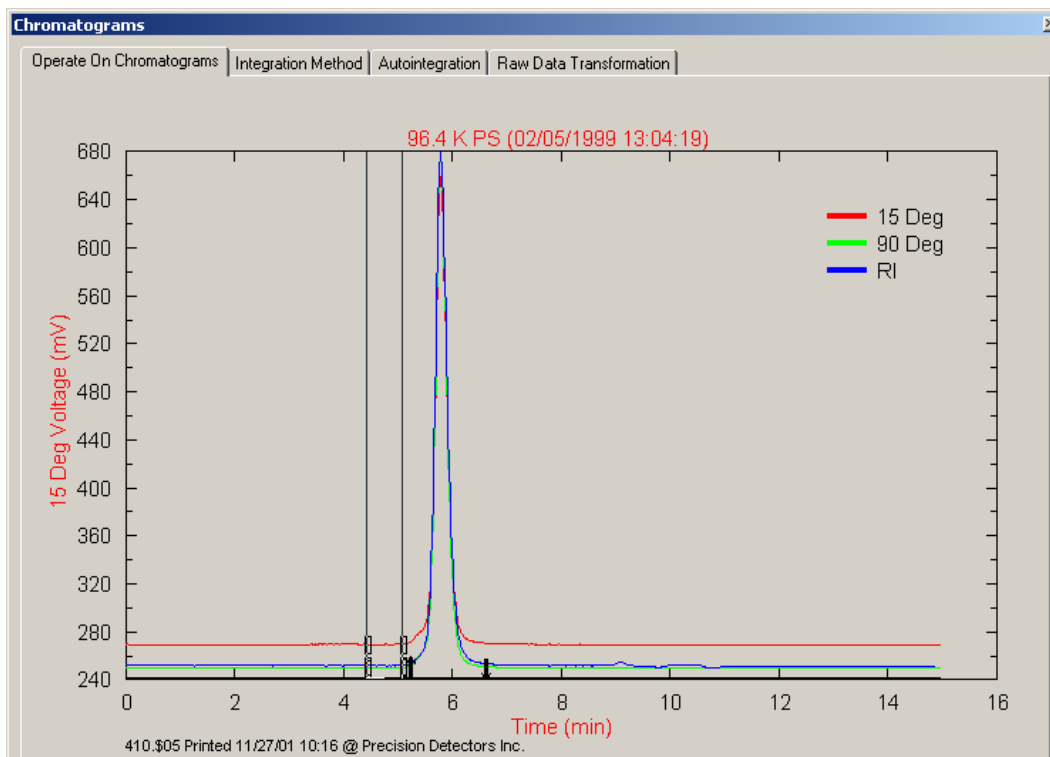

Figure 7-10: Setting the Baseline
- d) You may start and stop the baseline selection (going from left to right) anywhere on the chromatogram and independent of any vertical lines that show previously determined regions. As an alternative, you may move the vertical lines by holding down the Ctrl button down and clicking while dragging the rectangular box. Select a region of the chromatogram where the baseline is flat in front of the peak(s) of interest and then release the mouse button. Repeat the process for the other traces if they require selection of different regions to obtain good baselines. In Figure 7-10, we have set the baseline indicators to approximately 4.2 min and 5.1 min.